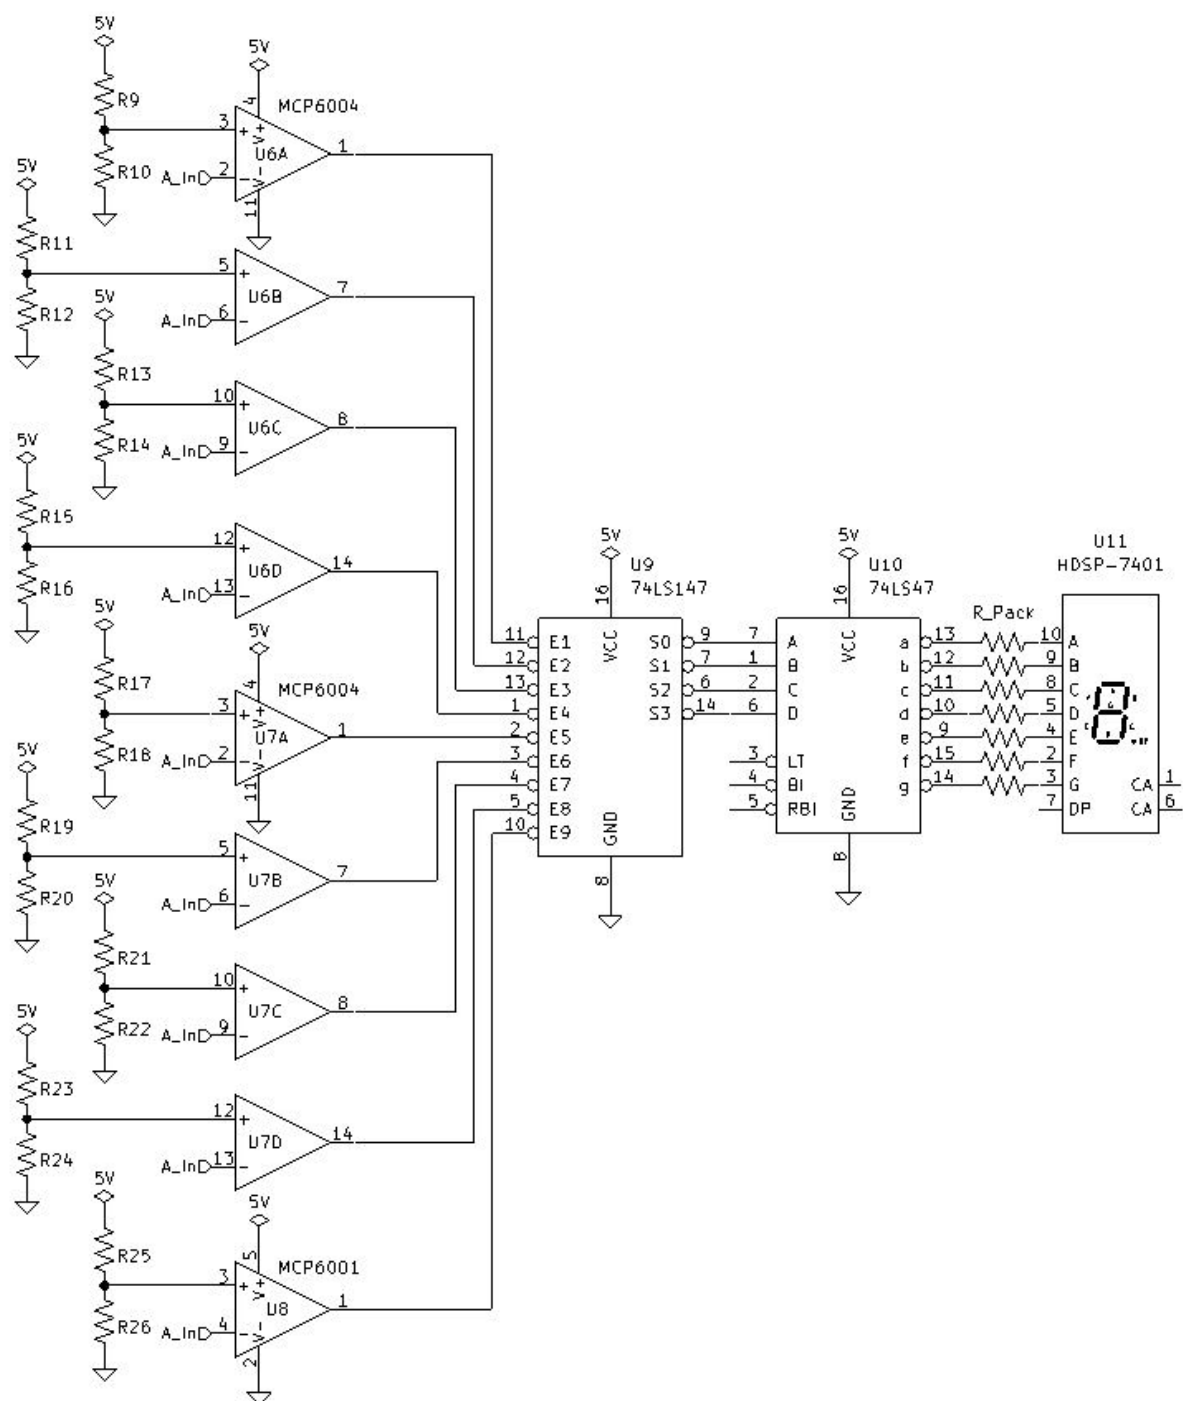

Figure 8.2: ADC Engineering Department Prototype Circuit.
1. The Engineering Department has sent you an ADC prototype circuit that they are working on. The ADC circuit is not working as expected. The Engineering Department needs you to analyze the circuit and make sure all the connections are correct. See Figure 8.2 *ADC Engineering Department Prototype Circuit* on page 76.